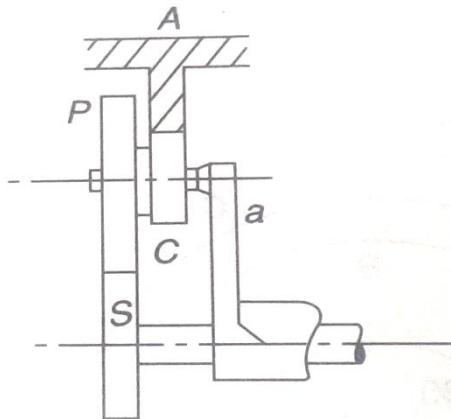

Figure 6
5. The number of teeth in the gear shown in the Figure 6 are as follows: